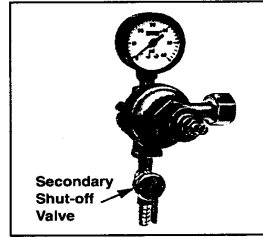

Fig. 9
- Make sure the secondary shut-off valve (shown in figure 9 in 'Open' position) is closed. To open the main CO2 cylinder valve, slowly turn the main valve counter-clockwise until fully open.